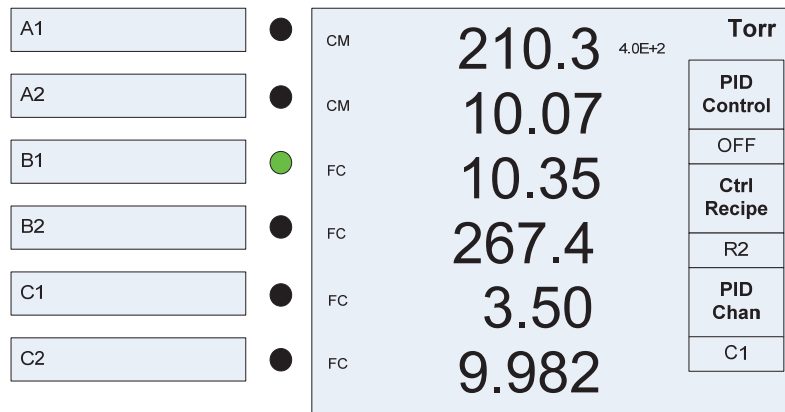

**Figure 6-16 Schematic of a Scheduled PID Control**
- **GainSchedBand:** This is the band for gain scheduling PID control, that is, allows different proportional gain  $K_p$  at different error band during pressure control. This is often used for maintaining stable control around the set point (within the scheduled PID control zone as shown in Figure 6-16, while ensuring the fast approach to the set point in the normal PID control zone where the control error is large (such as at the beginning of the control process)).